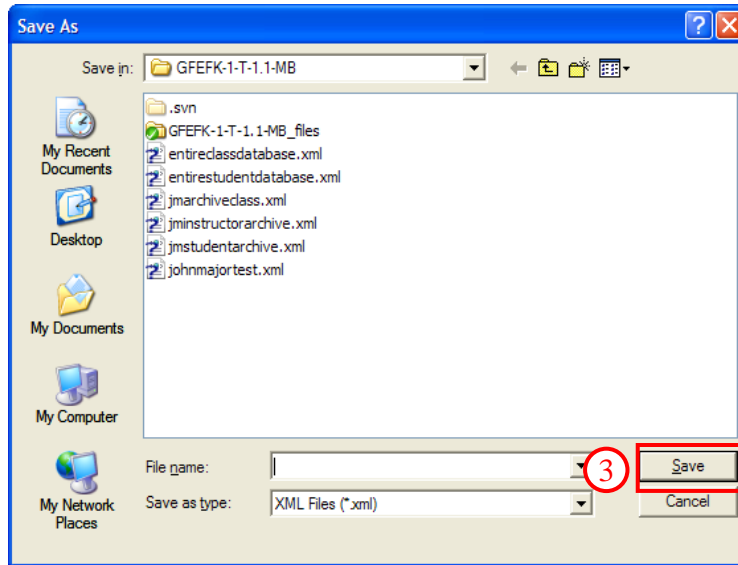

Figure 60. Archive Student - Save As Dialog
3. A *Save As* dialog is displayed (Figure 60). Navigate to the desired location, enter a File name and click the [SAVE] button.